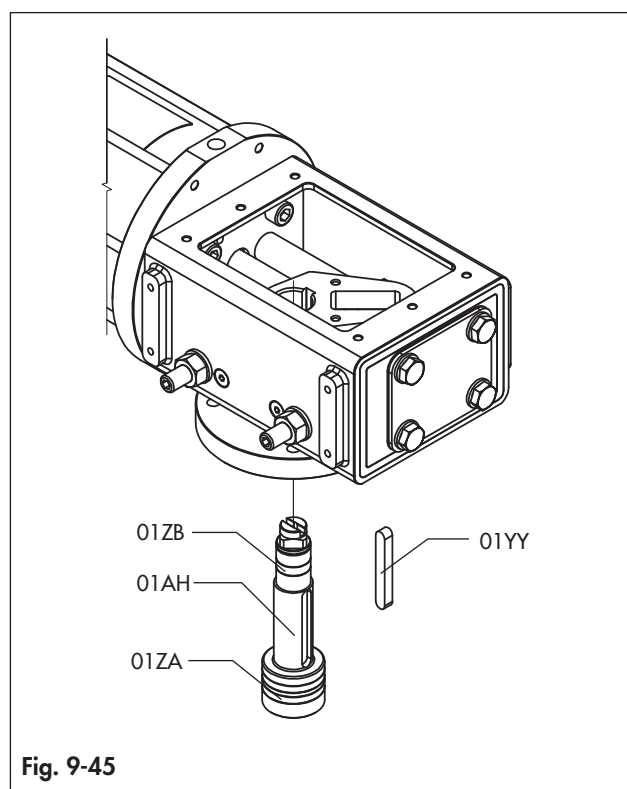

Fig. 9-45
- Add the guide bar (01AQ) inside the housing and through the sliding block (01AF). (Fig. 9-45).
- Clean the drive shaft, and replace the bearings (01ZA) and (01ZB). (Fig. 9-45).
- Add the key (01YY) on the drive shaft (01AH) and place it inside the housing from the bottom. (Fig. 9-45).